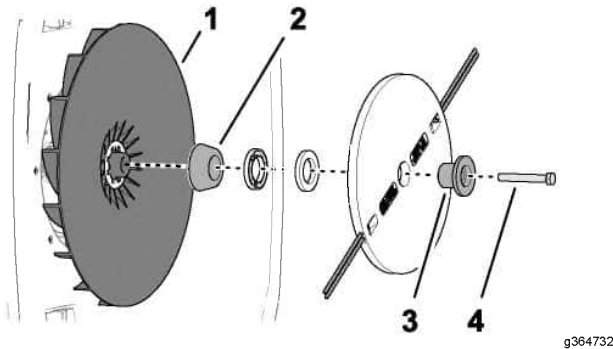

Figure 30
1. Assemble the retainer, cutting disc, spacers, and conical spacer to the impeller with the bolt \(Figure 30\).